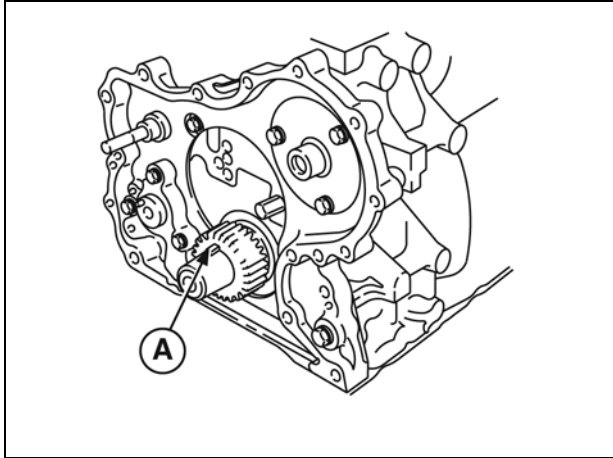

Figure 13
8. Rotate crankshaft so that the key is at the 12 o'clock position (**A**, Figure 13).